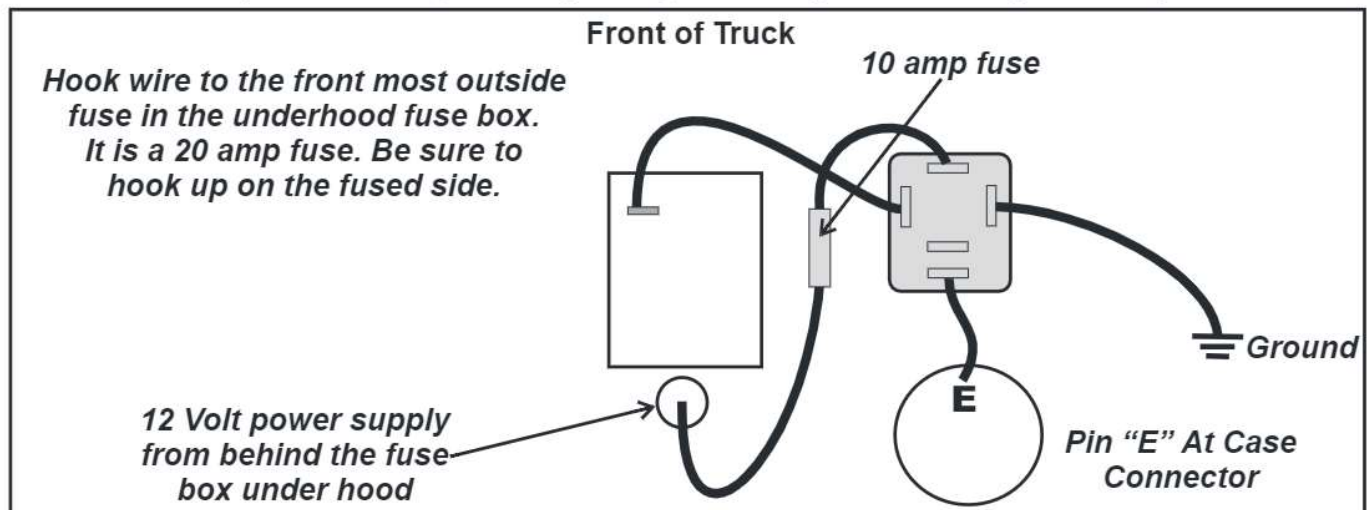

Figure 125
- Replace ignition switch or use relay wire harness as shown in Figure 125.
When solenoid codes are stored due to a voltage drop at case connector terminal “E” caused by a faulty ignition switch, either replace the ignition switch or make the harness using a standard relay as seen in Figure 125 below to bypass the ignition switch and eliminate the codes. These codes are usually stored after engine startup. It is a good idea to put a function explanation tag on the harness.